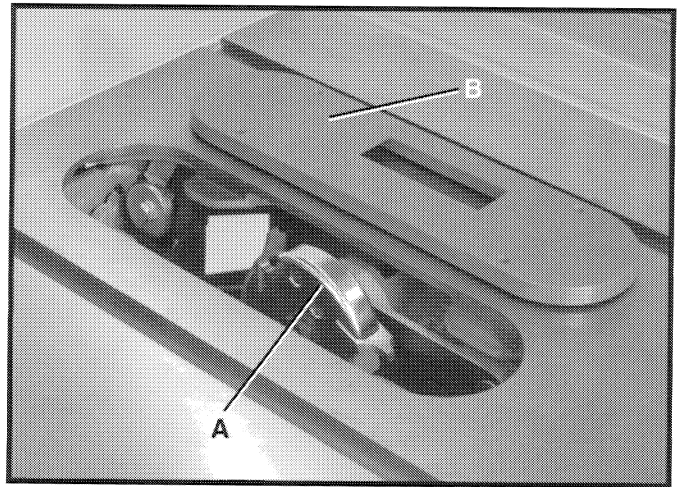

Fig. 94
The moulding cutterhead (A) Fig. 94, is assembled to the saw arbor in the same manner as the saw blade. The guard, splitter and anti-kickback finger assembly cannot be used when moulding and must be removed from the saw. In place of the guard, auxiliary jigs or fixtures and push sticks and featherboards should be used. Also, the accessory moulding cutterhead table insert (B) Fig. 94, must be used in place of the standard table insert.